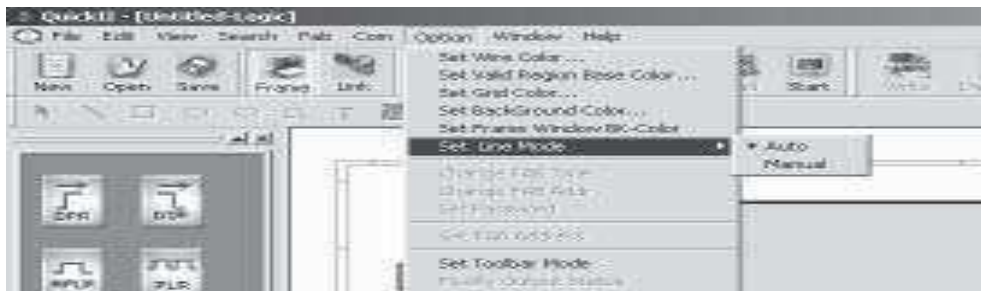

Fig. 4.14 Select the link mode
1. Click the **Set line mode** option under the Option Function List with the left mouse button and then click the **Auto** or **Manual** in the sub-option, as shown in Fig. 4.14. The default mode is automatic link mode.